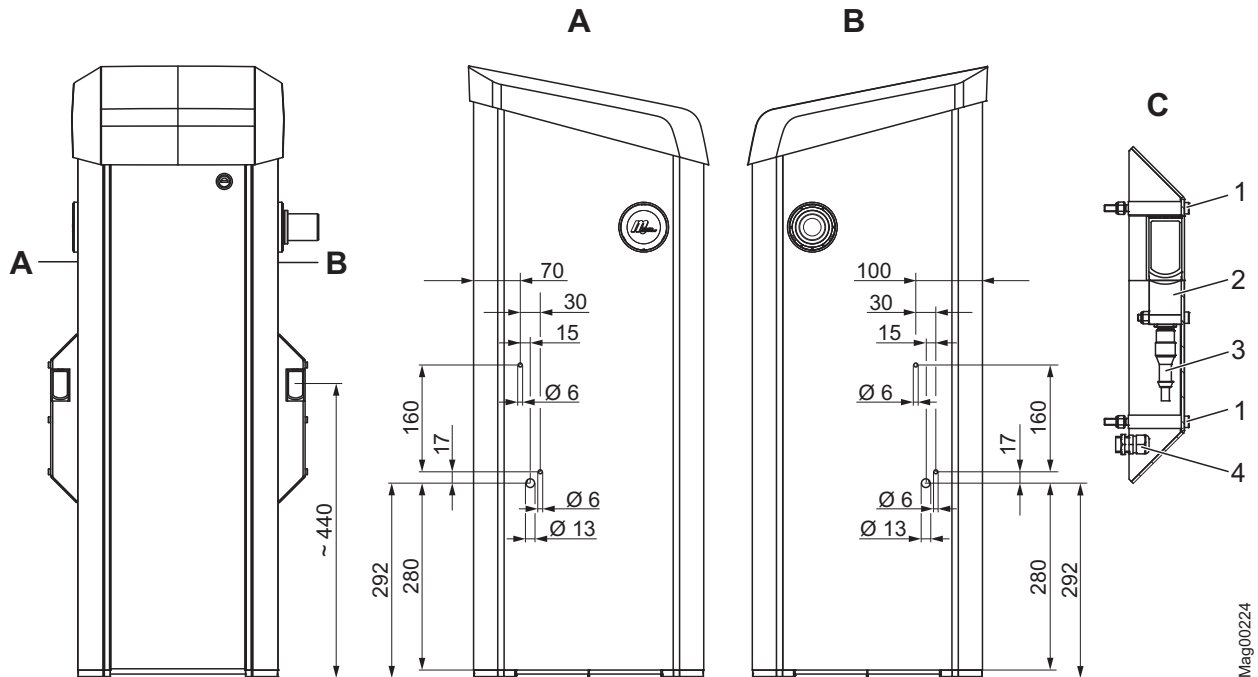

Fig. 25: Assemble of the transmitter's light barrier housing on the barrier housing
1. Drill holes for the light barrier housing according to Fig. 25. Mount the cable screws at the housing with conternut.